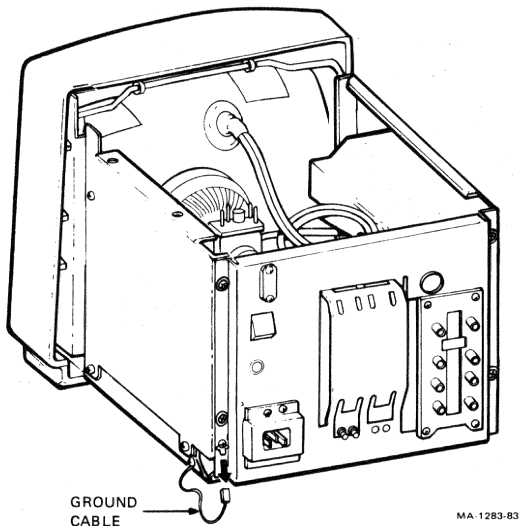

Figure E-3 VR241-A Monitor Ground Cable
- Make certain the ground cable is connected to rear lower left tab. (See Figure E-3).